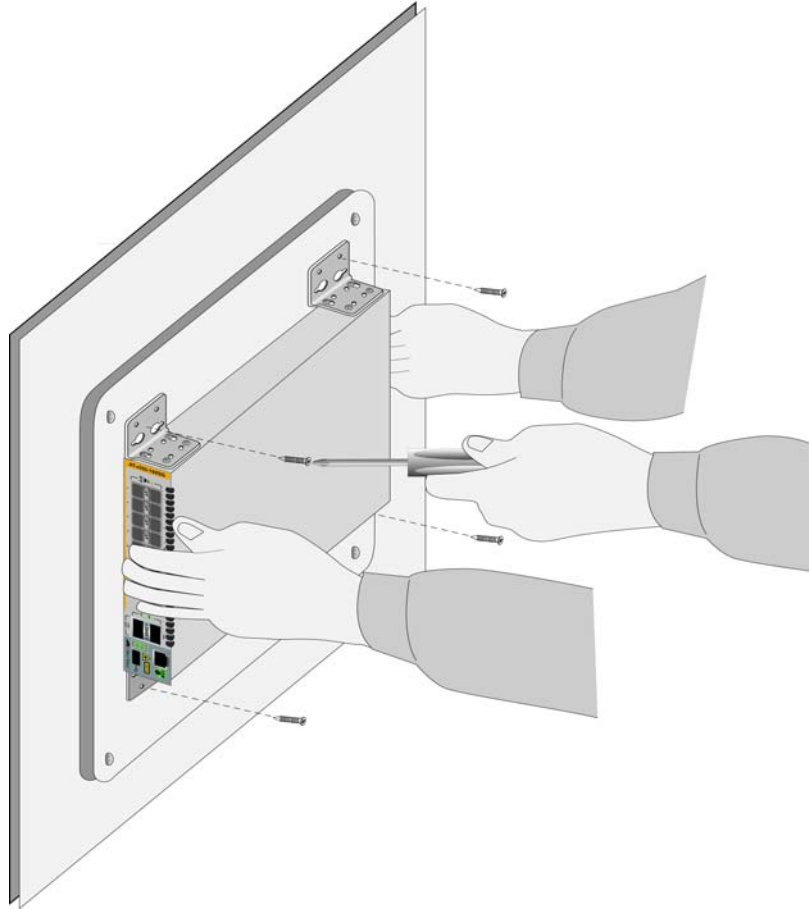

Figure 36. Securing the Switch to the Plywood Base
3. After attaching the brackets to the side of the switch, have another person hold the switch on the plywood base on the wall while you secure it with the four M4x32.3mm screws included with the switch. Refer to Figure 36 on page 72.